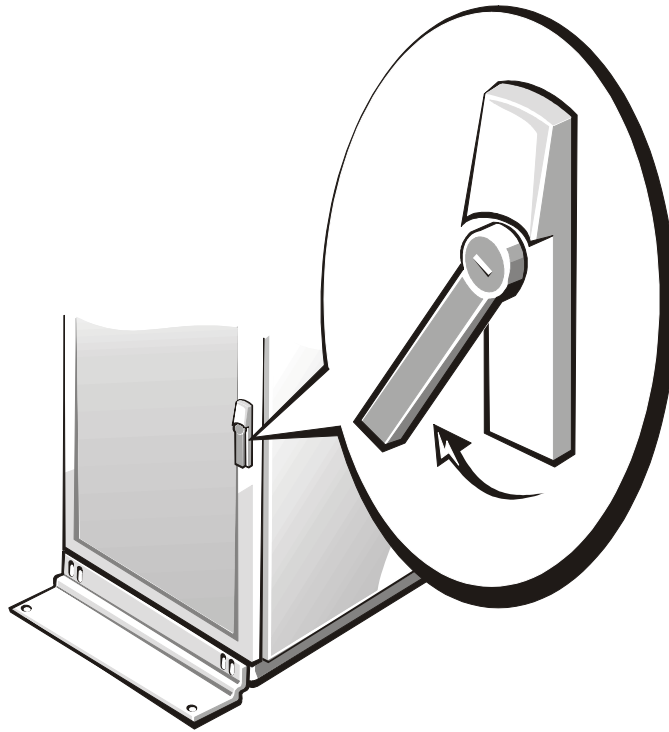

Figure 12. Unlocking the 24-U Rack Door
1. Unlock and twist the handle clockwise (see Figure 12).
3. Close the door latch by rotating the handle counterclockwise until it stops, and then push the handle in until it locks in position (see Figure 12).